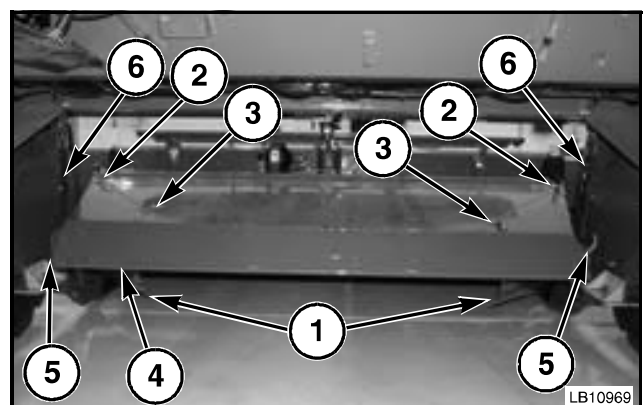

FIG. 16
FIG. 16: To adjust the windrow forming shields (1) loosen the front (2) and rear (3) adjustment handles. Put the windrow forming shields in the desired location. Tighten the adjustment handles.